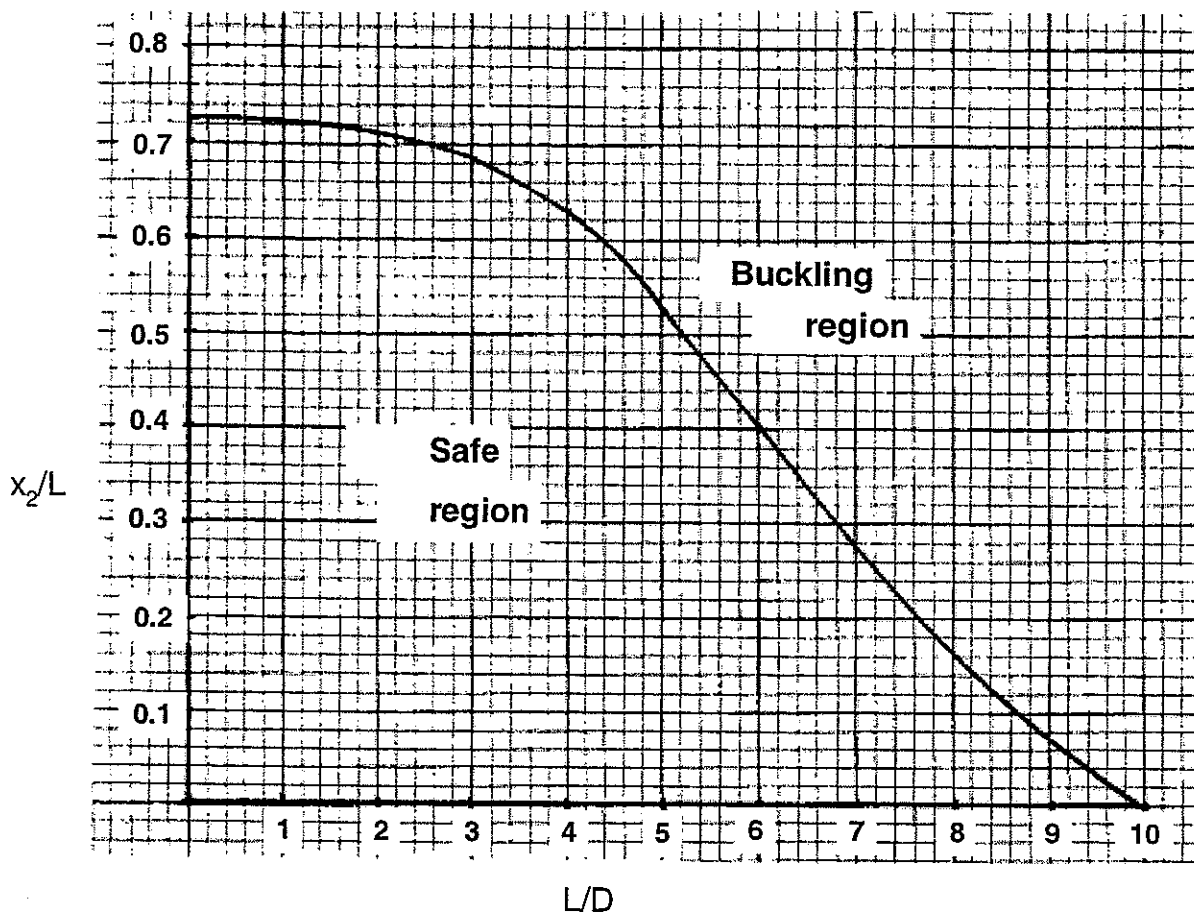

Figure 4 Maximum L/d ratio for buckling
If $L/d < 10$ the likelihood of buckling depends upon the maximum load (or deflection) and can be determined by reference to the graph shown in Fig. 4 (page 241).
Using Figure 4, $x_2/L = 0.7$ (max. for buckling).
9. If the spring is a compression spring check if buckling is likely by calculating the L/d ratio. If $L/d > 10$ buckling is likely under any load or deflection and if $L/d < 10$ use Fig. 4 page 265. If buckling is likely some guidance or support is needed.